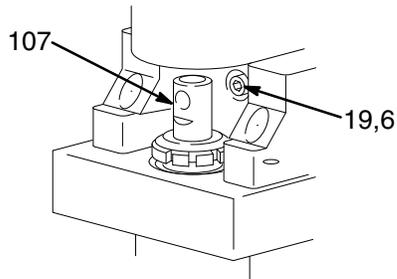
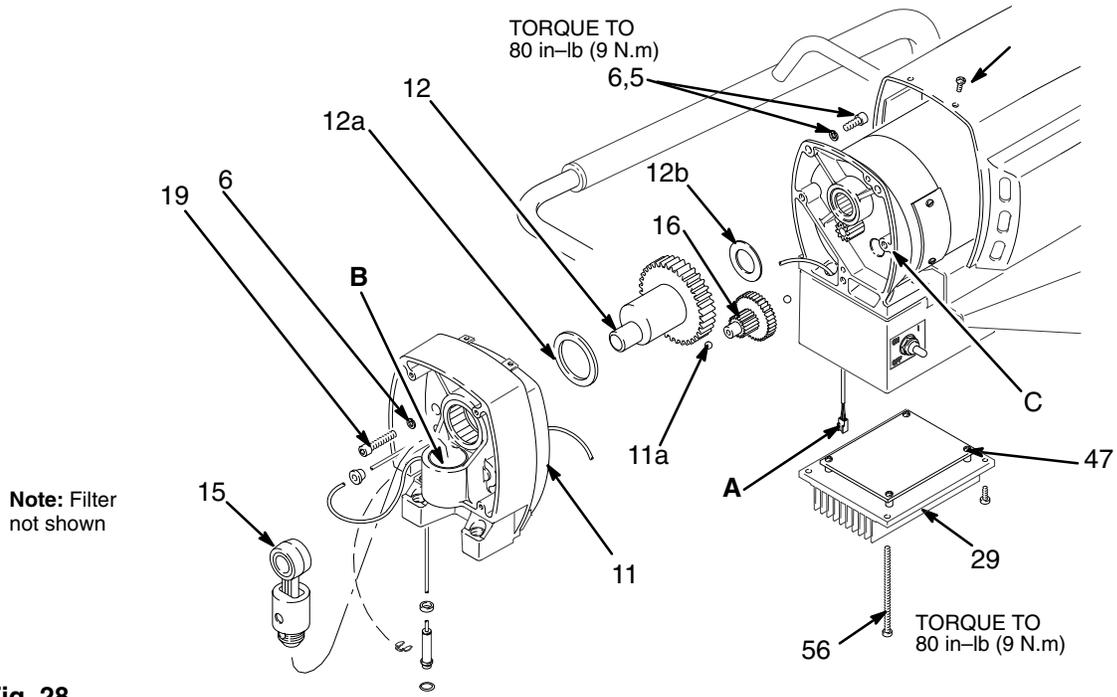

Fig. 27
Fig. 28
1. Remove the screws (56,75) and lower the control card (47). See Fig. 28.
2. Remove the rubber boot (55). See page 36.
4. Turn the displacement pump rod (107) so the pin hole aligns with the bottom drive housing screw (19). See Fig. 27. Remove the three drive housing screws and lockwashers (19,6). Also see Fig. 28.
5. Remove the two motor screws and lockwashers (5,6). See Fig. 28.
6. Tap the lower rear of the drive housing (11) with a plastic mallet to loosen the motor. Pull the drive housing straight off the motor.
NOTE: See Fig. 28 and 29 for this procedure.